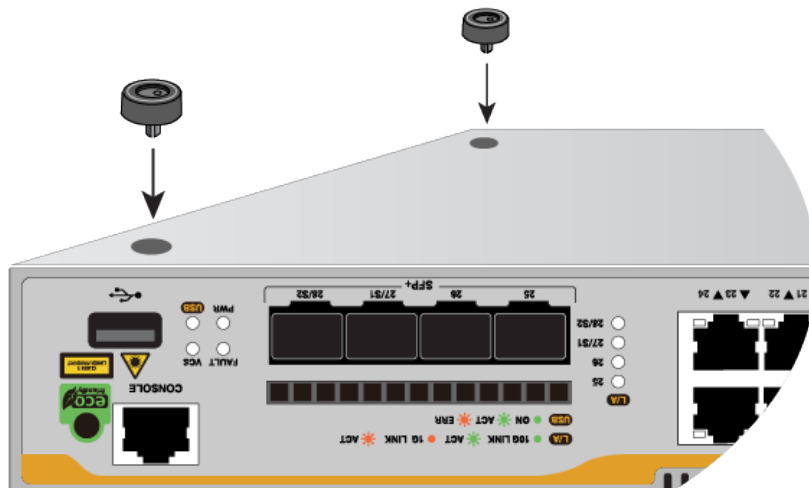

Figure 20. Placing the Bumper Foot Units on Base Corner Holes
4. Place a rivet housing and bumper foot unit onto a hole at each corner shown in Figure 20. The switch has four holes.